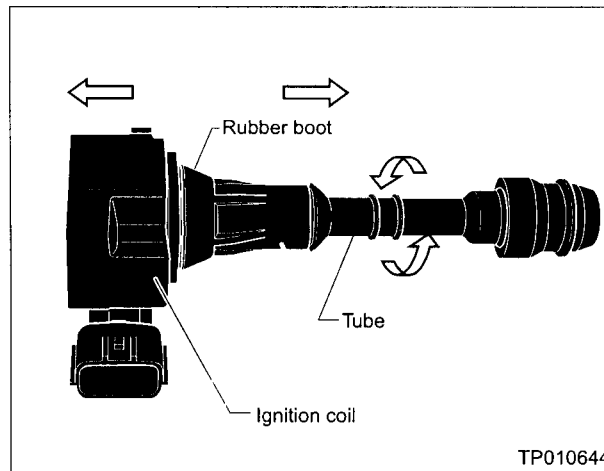

Figure 1
- A. Pull the rubber boot away from the ignition coil. Then, twist and pull the ignition coil tube from the ignition coil to separate them (see Figure 1, 6 cylinder shown, 4 cylinder similar).